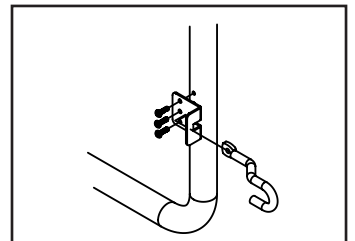

FIG. 6
- d.) Screw the hook into the U bent gate piece using the 1/4"-20 x 3/4" Torx screws. (Fig. 6)